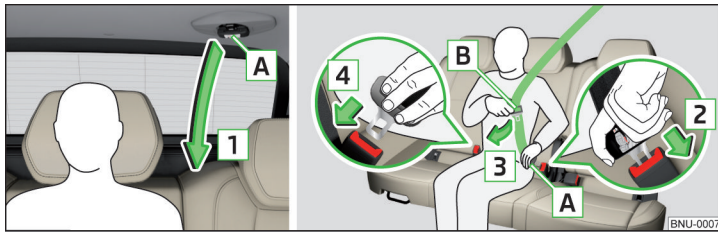

Fig. 20 Fastening/unfastening the seatbelt on the middle VarioFlex seat
- › Slowly pull down the belt on the lock tongue [A] » Fig. 20 in the arrow direction [1].
- › Grip the lock tongue [A] » Fig. 20 and press the red button in the lock tongue, the lock tongue pops out.